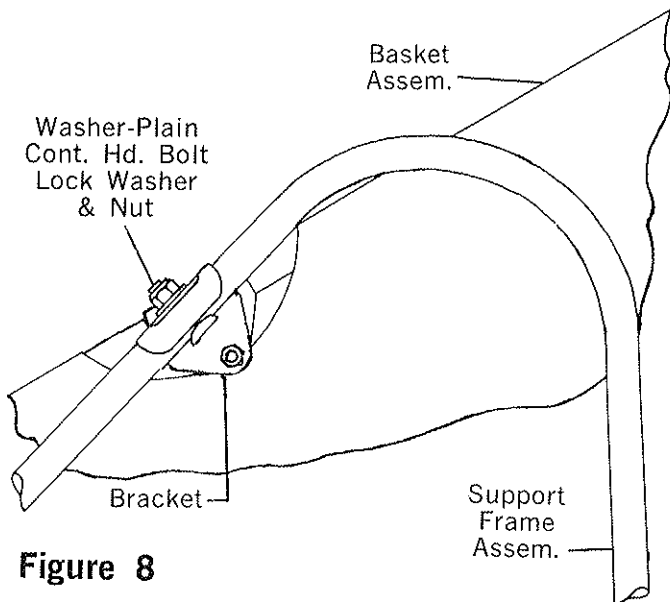

Figure 8
6. Fig. 8 & 13 - Position the Basket Assembly between the Support Frames. Use (2) Contour Hd. Bolts $1/4$ -20 x $1\frac{1}{2}$, Washers, Internal Tooth Lock and Hex Plain Nuts. Put the Bolt down thru the Support Frame Tube and center the Bracket which is on the top of the Support Frame Tube, then tighten in place with the Bolt, Washer and Nut (both sides).